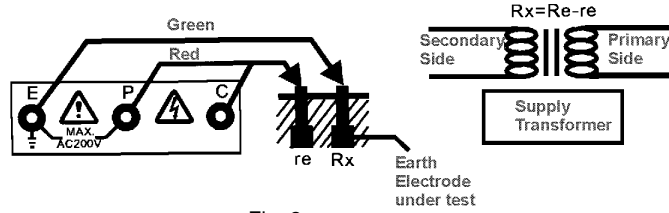

Fig. 2
- (1) This method is recommended where an earth resistance higher than 10Ω is measured or where it is not possible to drive auxiliary earth spikes. An approx. value of earth resistance can be obtained by the two-wire system as shown in Fig. 2
- (2) Rotate the function switch to the "Earth Voltage" position and press to test. Make certain that earth voltage is less than 10 V.
- (3) First rotate the function switch to "200 Ω " position and press to test. Read earth resistance. If the display shows "1" (MSD), switch to "2000 Ω " and read earth resistance.
(4) The reading obtained (R_x) is an approx. earth resistance value.